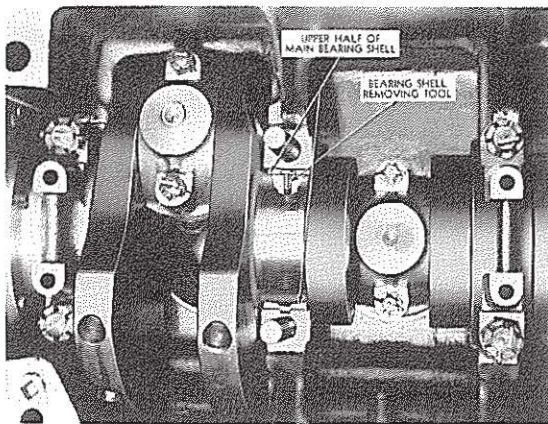

FIG. 1
4. The bearing cap having been removed, insert a $\frac{1}{4}$ " x 1" bolt with a $\frac{1}{2}$ " diameter and $\frac{1}{16}$ " thick head into the crankshaft main bearing oil hole, then rotate the shaft to the right (clockwise) and roll the bearing shell out of position as shown in Fig. 1. The head of the bolt should